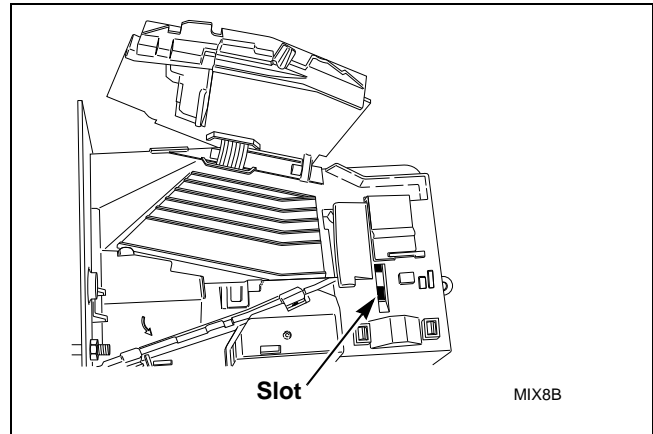

Figure 8
- (10) Attach clip to new tension spring, Part No. 209/00598/02.
- (11) Place clip, installed on spring, in slot on coin drop. Refer to *Figure 8*.